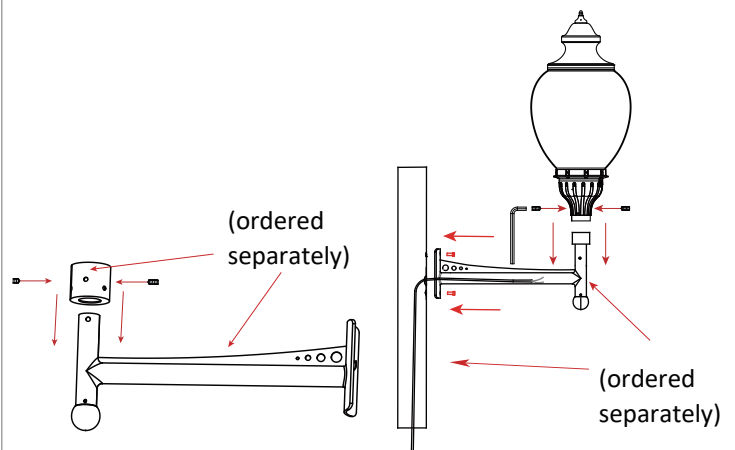

Fig. 7
2. Secure the $\phi 76$ tube adapter to the straight arm with two M8 screws. See Fig. 7.
3. Secure the straight arm to the pole using two M8 screws. See Fig. 7.
4. Put the base of the fixture over the arm and secure it with screws. See Fig. 7.